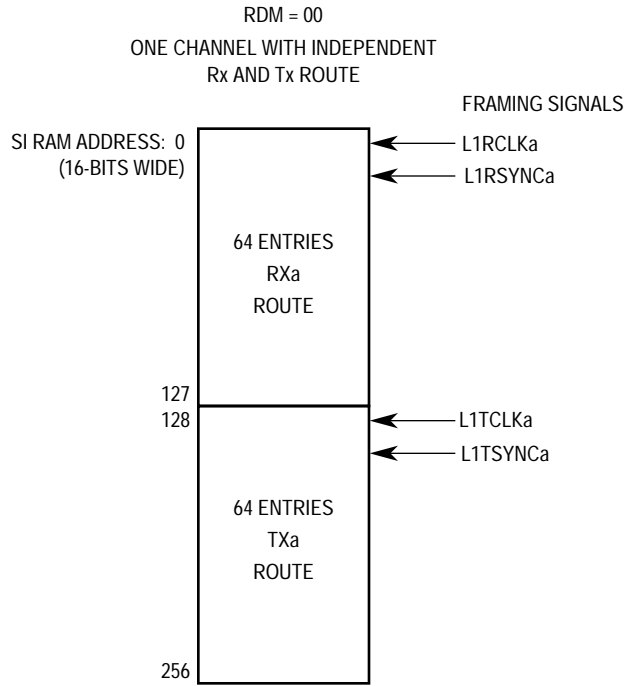

Figure 7-23. SI RAM: One TDM with Static Frames
7.8.4.1 ONE MULTIPLEXED CHANNEL WITH STATIC FRAMES. With this configuration (see Figure 7-23), there are 64 entries in the SI RAM for transmit data and strobe routing and 64 entries for receive data and strobe routing. This configuration should be chosen when only one TDM is required and the routing on that TDM does not need to be changed dynamically.